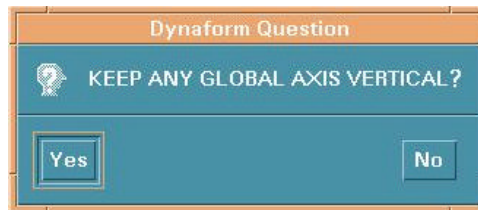

Figure 11.5.1 Axis Question
- A DYNAFORM Question appears, see Figure 11.5.1.